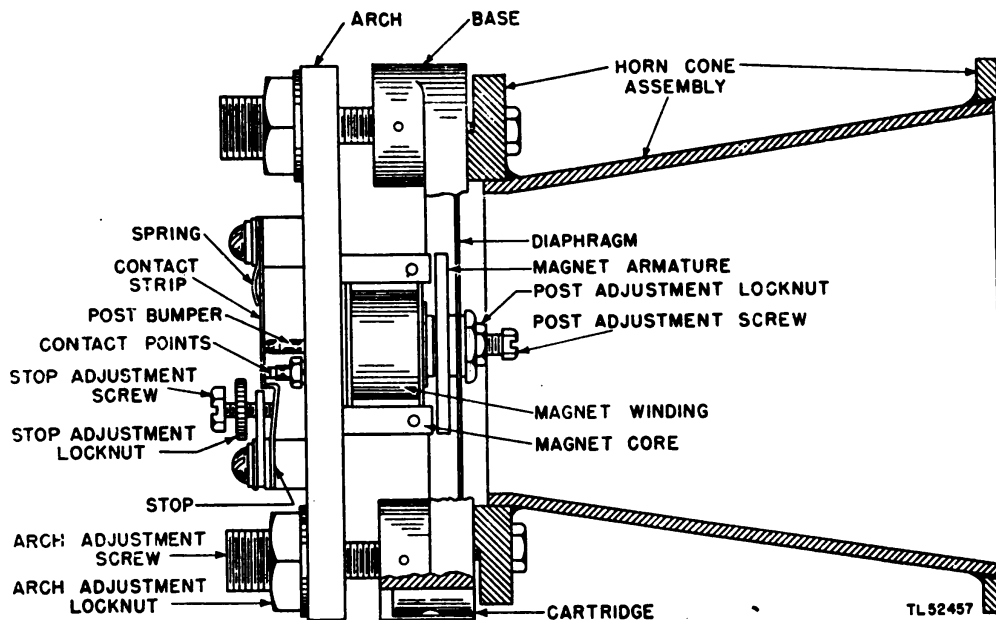

Figure 13. Time Interval Signal BE-65—cross section.
d. HORN (fig. 13). The unit of Time Interval Signal BE-65 is an interrupter-type for operation on 3 volts. The primary parts of the horn are the electromagnet, the armature, the post, the diaphragm, and the contacts. One end of the post is mechanically secured to the diaphragm. The other end is equipped with a rubber bumper which conveys the motion of the post to the contacts for interruption. The armature is mounted on the post in front of the electromagnet. A 6-mf capacitor is connected across the interrupter contacts.